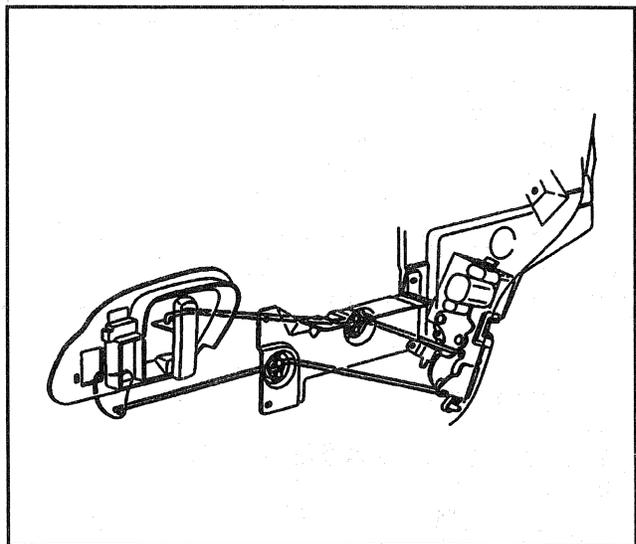

Figure 70—Inside Rear Side Door Handle and Lock Control Rods
↔ Remove or Disconnect (Figures 70 and 71)
3. Inside door handle and lock control rods (Figure 70).
↔ Install or Connect (Figures 70 and 71)
4. Outside door handle (Suburban, Crew Cab-threaded clip requires snap) (Yukon/Tahoe 4 door-push in clip) (Figure 70).
5. Inside door handle and lock control rods (Figure 70).